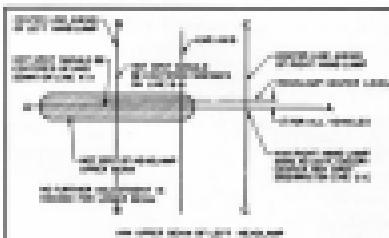

Fig. 619. Light Beam Aiming Instructions
Independent adjustment of both horizontal and vertical aim is provided in "Sealed Beam" headlamps with the adjustment screws accessible from the front of the lamp after the door rim is removed. Fig. 619 shows the vertical adjusting screw (F) and the horizontal adjusting screw (G). The light beam is moved to the right or left by tightening or loosening this horizontal adjusting screw (G).